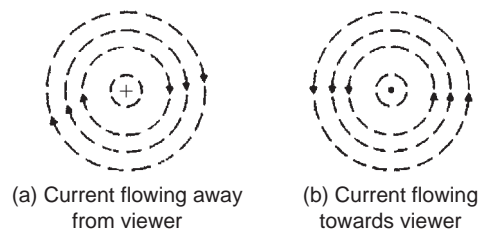
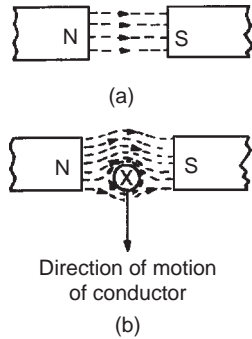

Figure 10.3
Figure 10.13
When dealing with magnetic fields formed by electric current it is usual to portray the effect as shown in Fig. 10.3. The convention adopted is:
- (i) Current flowing away from the viewer, i.e. into the paper, is indicated by \oplus . This may be thought of as the feathered end of the shaft of an arrow. See Fig. 10.3\(a\).
- (ii) Current flowing towards the viewer, i.e. out of the paper, is indicated by \odot . This may be thought of as the point of an arrow. See Fig. 10.3\(b\).
For example, with current flowing away from the viewer (Fig. 10.3\(a\)) a right-hand thread screw driven into the paper has to be rotated clockwise. Hence the direction of the magnetic field is clockwise.
If the current-carrying conductor shown in Fig. 10.3(a) is placed in the magnetic field shown in Fig. 10.13(a), then the two fields interact and cause a force to be exerted on the conductor as shown in Fig. 10.13(b). The field is strengthened above the conductor and weakened below, thus tending to move the conductor downwards. This is the basic principle of operation of the electric motor (see Section 10.4) and the moving-coil instrument (see Section 10.5).